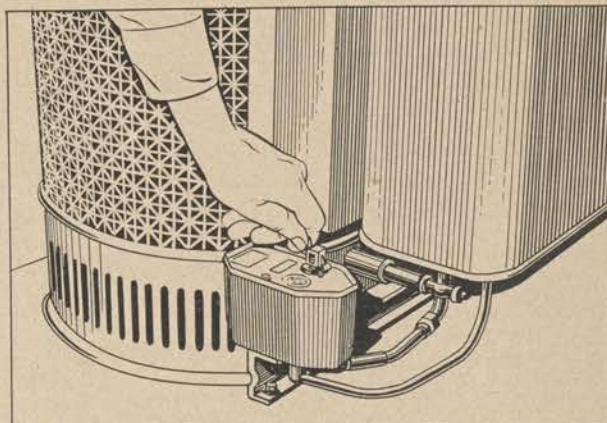

Figure 296. Adjusting heat control knob on control valve.
b. CONTROLS. Two controls are provided: The fuel valve (fig. 296) which limits the amount of fuel delivered to the float valve, and the control valve which can be adjusted to vary the heat in accordance with a "low" and "high" setting. Two levers, one short and one long, are provided at the forward end of the safety float. The long lever acts as a safety trip in the event the float clogs and permits excessive fuel delivery. The short lever is used to reset the float after the cause of clogging has been removed.
c. OPERATION. (1) *Lighting stove.* Open fuel valve on top of fuel tank five or six turns. (See fig. 296.) Lift up the long lever at end of the safety float valve. Turn the fuel control knob on the valve to "high" fire (fig. 296) until oil appears in the burner; then turn to "low" fire and toss a small piece of burning paper in the bottom of burner. Allow burner to operate on "low" fire